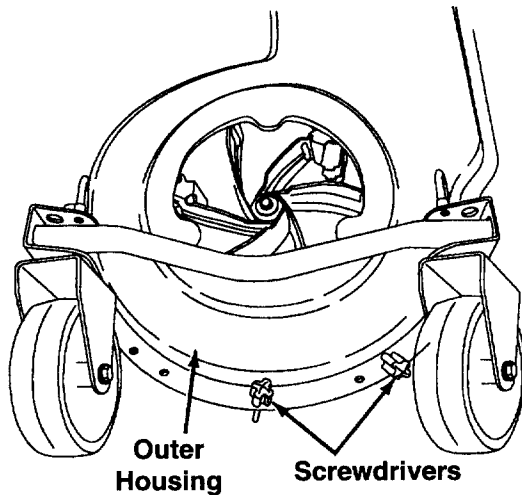

Figure 22
25. Place the outer housing against the inner housing. Insert two screwdrivers into the holes as shown in Figure 22. This will hold the blades in place while attaching the outer housing. Secure with the fourteen self tapping screws that were removed in step 12. Start all screws first before tightening.